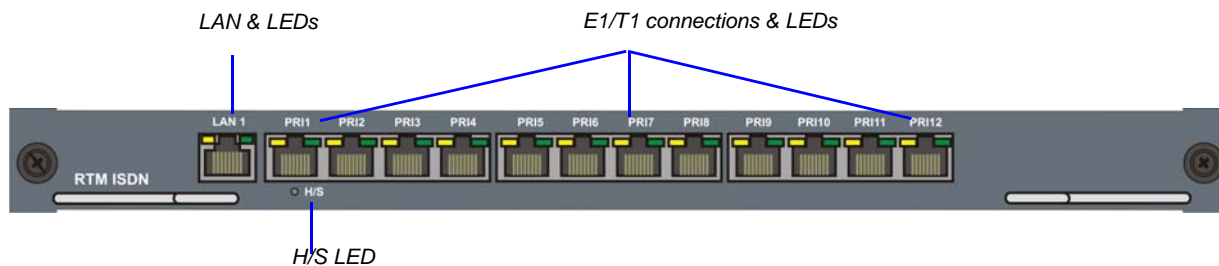

Figure 1-3 RMX 2000 RTM ISDN Rear Panel Layout
- 7 E1 or 9 T1 PRI lines that can be plugged into any of the 12 connections as shown in Figure 1-3.